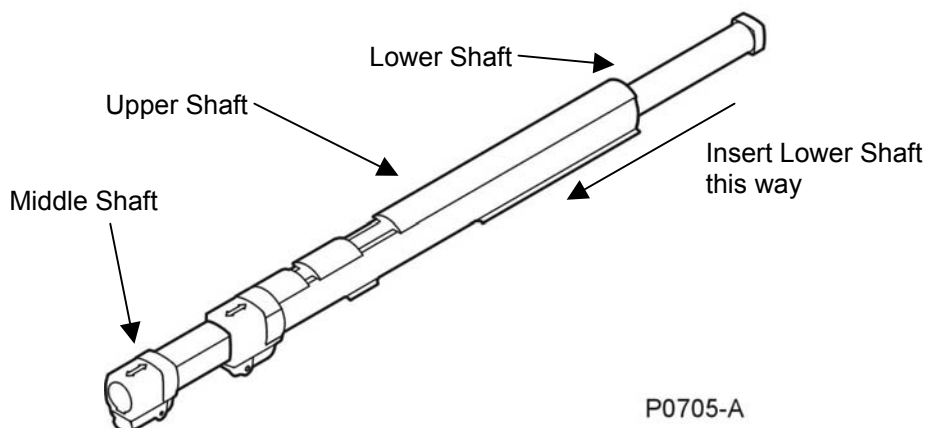

Figure 53: Inserting the Lower Shaft
- Slide the lower shaft through the upper/middle shafts, protruding section at front of the lower shaft uppermost. (Figure 53)